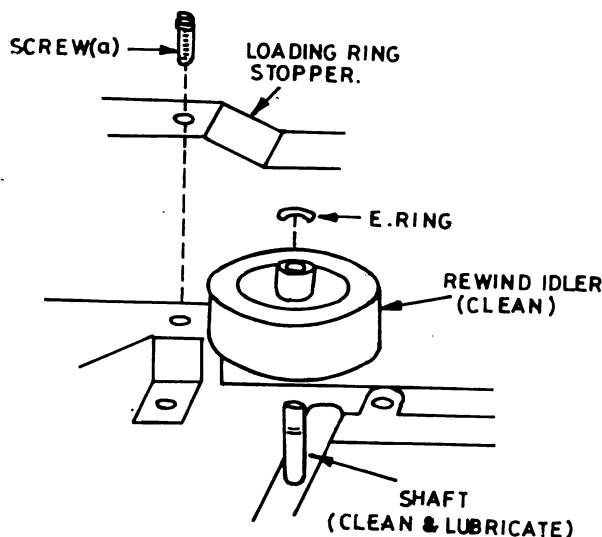

Fig. 10.8 Rewind idler cleaning and lubrication
2. Unfasten screw (a) to remove the loading ring stopper as shown in fig. 10.8